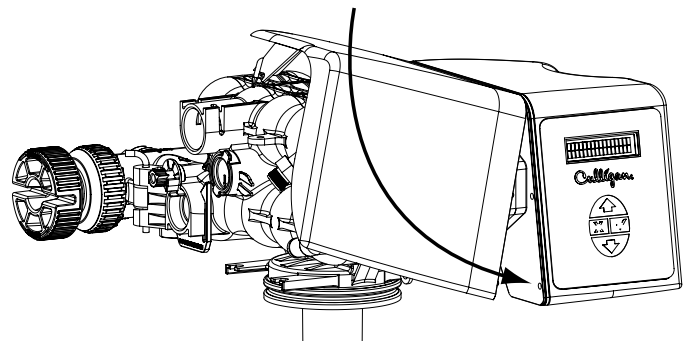

Figure 11. Reattaching the HE Twin softener cover.
2. Rotate the cover downward inserting the two pins on the side of the cover into the two holes on side of the frame. See Figure 11.